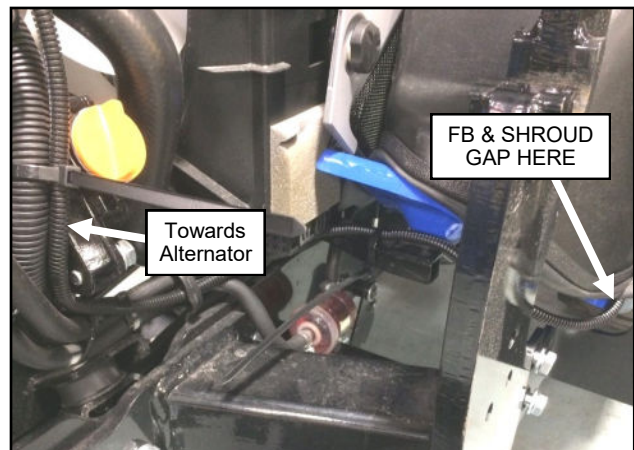

Fig. 10.4 (Power Harness to Hood)
10.4 Run the harness to the alternator as shown in Figures 10.4 and 10.5 making sure that wires will not be cut or pinched passing by the radiator or moving parts.